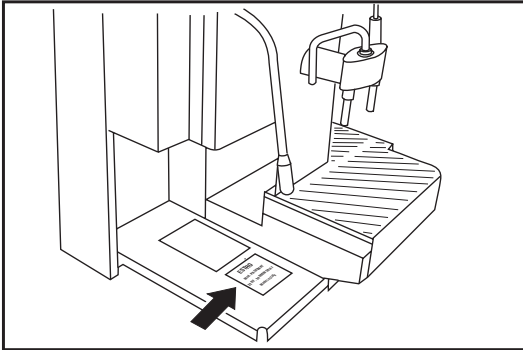
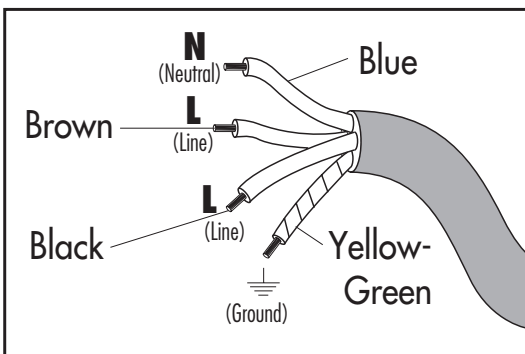

Fig. 1
Fig. 2
- The machine is only to be connected to an adequate power supply. For correct information consult the data plate under the coffee dreg drawer (fig. 1) following the reported instructions (fig. 2):